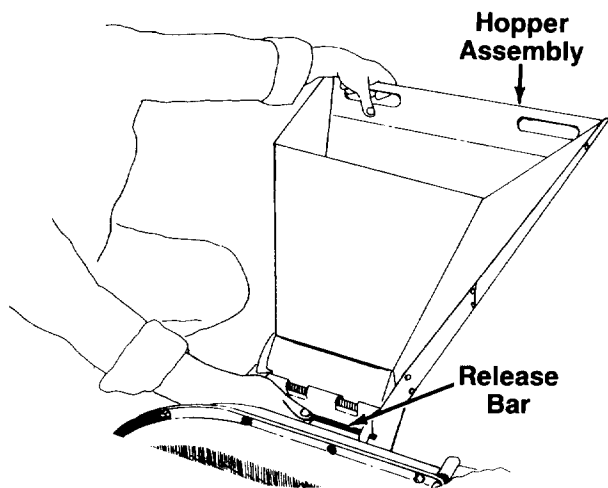

**FIGURE 11.**
- Leaves and small twigs can be raked into the hopper assembly when the hopper assembly is lowered to the ground. See figure 11. Small branches up to 1/2" diameter can also be fed into the hopper assembly in this position. See figure 12.